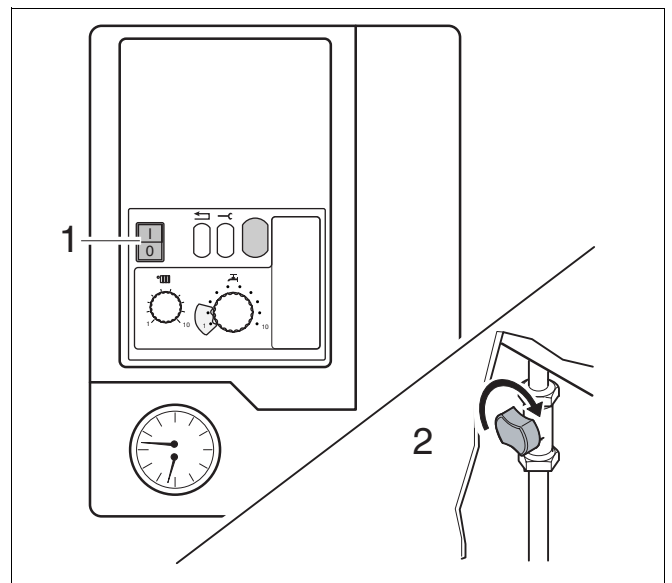

Fig. 6 Mains switch, gas service valve
- Turn the mains switch (fig. 6, item 1) into position "0".
- Close the gas service valve by turning it to the right (fig. 6, item 2).